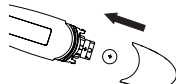

Figure 5
4. Use pointed object such as a pen to remove old battery. Discard battery lawfully. Replace with new 1.5V DC button type LR41 or SR41,UCC392, or equivalent. Be sure battery is installed with "+" polarity facing up. (See Figure 5)